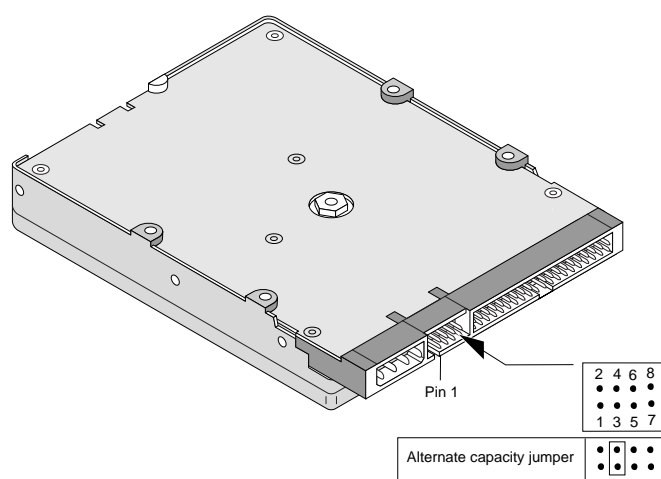

Figure 6. Alternate capacity jumper
2. Move the jumper on the alternate-capacity jumper, as shown in Figure 6. This causes the drive to appear to your BIOS as having a capacity of 528 Mbytes.